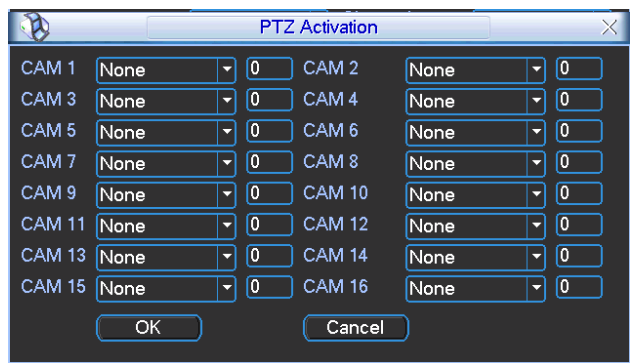

Figure 4-18
- PTZ activation: Here you can set PTZ movement when alarm occurs. Such as go to preset, tour &pattern when there is an alarm. Click “select” button, you can see an interface is shown as in Figure 4-18.